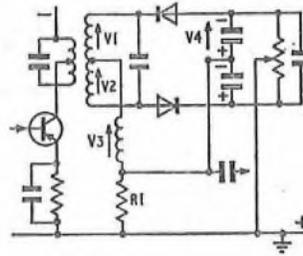

Fig. 3
Q. 8. Fig. 3 shows a discriminator.